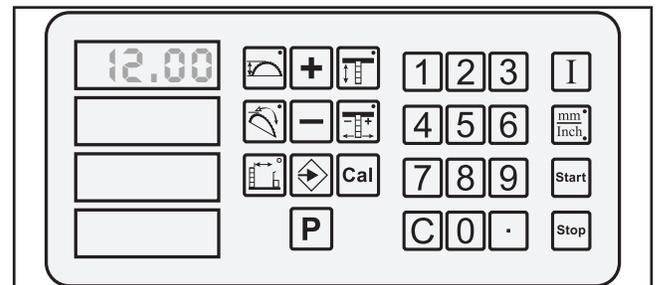

Figure 22. Blade diameter display.
4. Press and hold the blade height $[P]$ and calibrate $[Cal]$ keys at the same time, then turn the control panel back **ON**. After a few seconds, the current blade diameter will flash and the display will look similar to **Figure 22**.